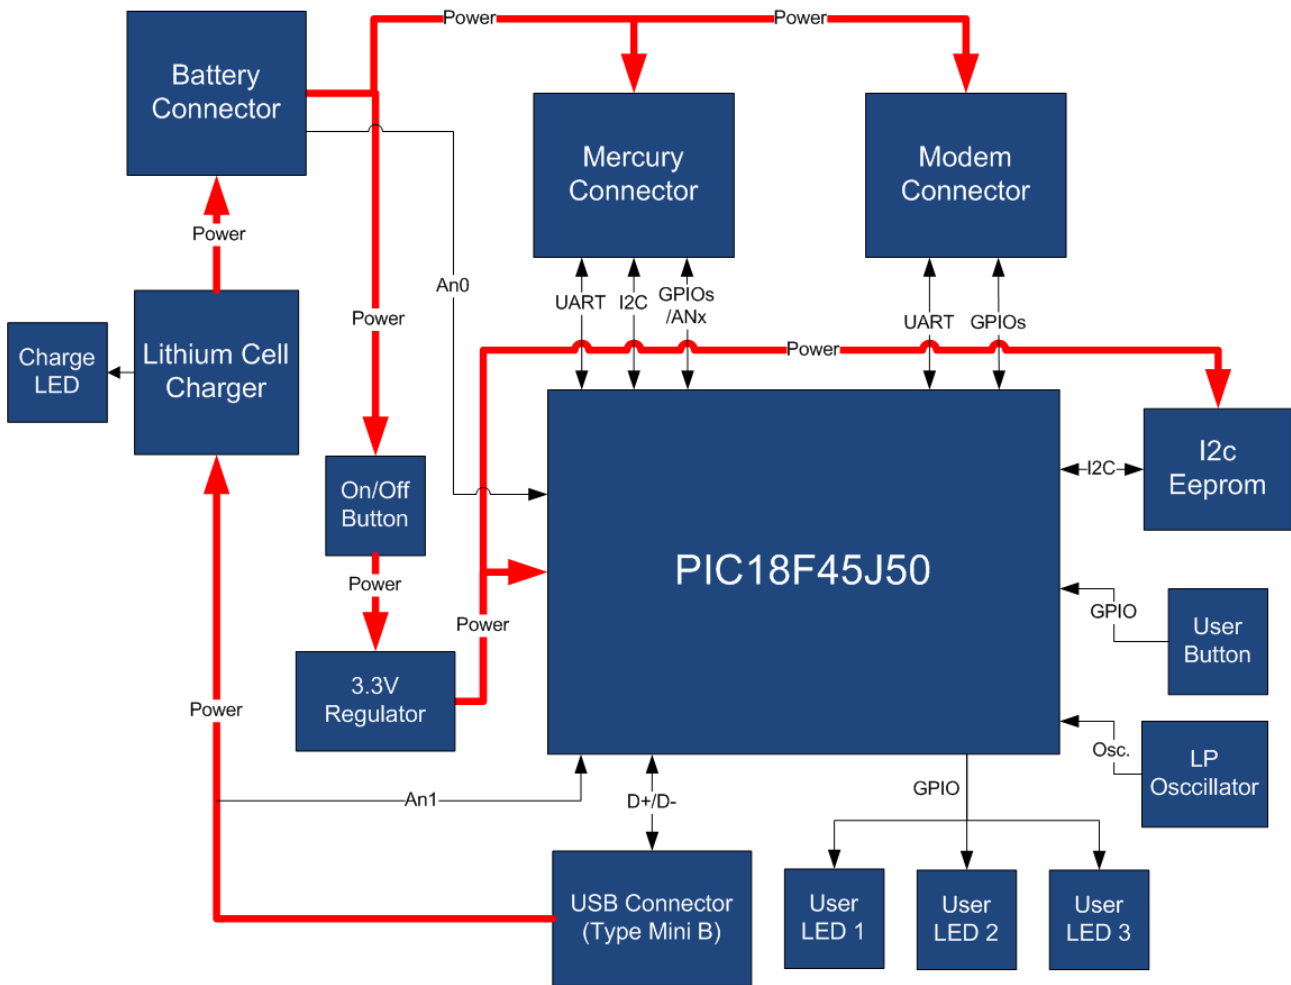

Figure 2 - BB110 Block Diagram
The BB110 is a Mercury System Base Board (BB). The BB family represent the Mercury System's main logical unit and stores the user application. This board interacts with several Slave Boards (SBs) and Modem Boards (MBs) in order to implements various connected and IoT applications. Figure 2 shows the BB110 block diagram. The heart of the system is a PIC18F46J50 8-bit RISC microcontroller, produced by Microchip Technology Inc.